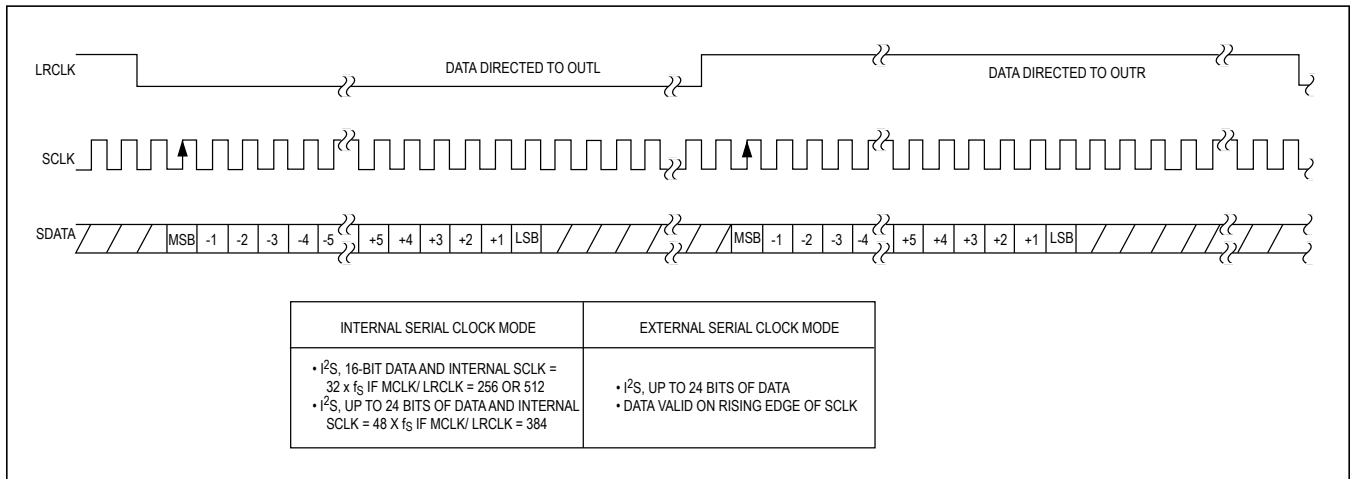

Figure 4. MAX5556 Data Format Timing
**Note 6:** In external SCLK mode, LRCLK duty cycles are not limited, provided all data formatting requirements are met. See Figure 4.
**Note 8:** The SCLK/LRCLK ratio can be set to 32, 48, or 64, depending on the MCLK/LRCLK ratio selected. See Figure 4.
The serial interface strobcs data (SDATA) in on the rising edge of SCLK, MSB first. The MAX5556 supports four different data formats, as detailed in Figure 4.
LRCLK is the left/right clock input signal for the 3-wire interface and sets the sample frequency ( $f_S$ ). On the MAX5556, drive LRCLK low to direct data to OUTL or LRCLK high to direct data to OUTR (Figure 4). The MAX5556 accepts data at LRCLK audio sample rates from 2kHz to 50kHz.
The MAX5556 accepts data with an I2S left-justified data format, accepting 16 or 24 bits of data. SDATA accepts data in two's complement format with the MSB first. The MSB is valid on the second SCLK rising edge after LRCLK transitions low to high or high to low (Figure 4). Drive LRCLK low to direct data to OUTL. Drive LRCLK high to direct data to OUTR. The number of SCLK pulses with LRCLK high or low determines the number of bits transferred per sample. If fewer than 24 bits of data are written, the remaining LSBs are set to 0. If more than 24 bits are written, any bits after the LSB are ignored.